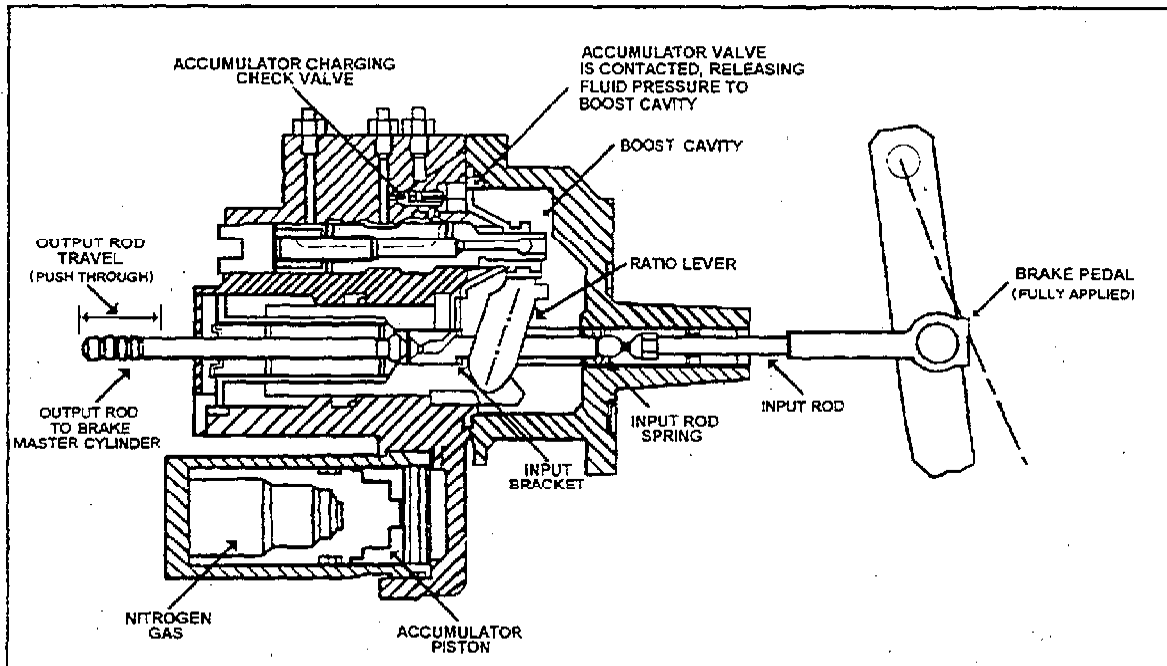

Fig. 7-3. Hydro-Boost - Reserve Power System
e. Reserve Power System. The Hydro-Boost reserve braking system illustrated in Figure 7-3 consists of a pressure accumulator, which uses three main parts: a compressed gas (nitrogen) accumulator; an accumulator charging check valve and an accumulator valve. The accumulator valve is actually an accumulator discharge valve, that is, it is the device that causes the accumulator to do its job when the hydraulic assist fails. The reserve power system operates as follows: